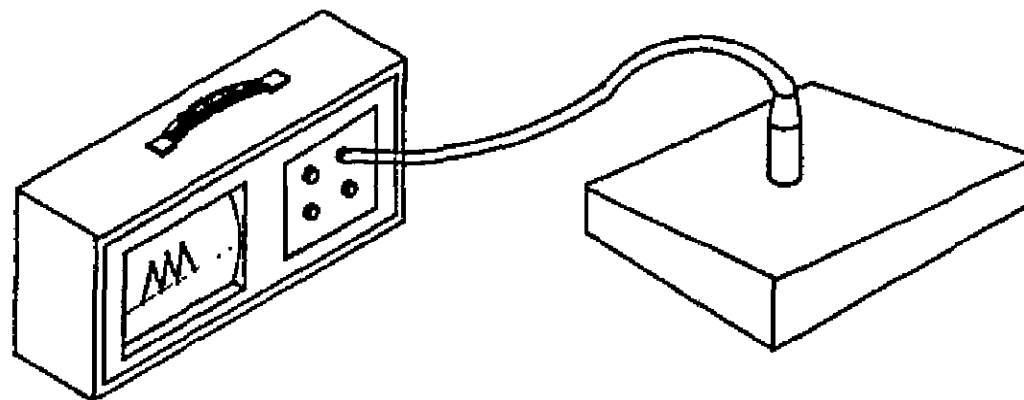

FIG. 2
- (c) (i) A non-destructive test is represented diagrammatically in Fig. 2. Outline the principles of the test and suggest a suitable application.